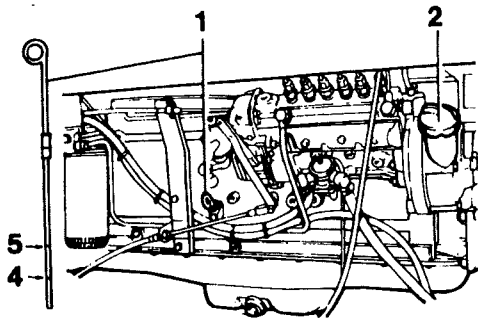

Fig 39a Engine
- 2 Check the oil level using the dipstick (1). The level should be at the upper mark (5 in Fig 39a). If necessary, replenish with more oil.
- 3 Refit the filler cap (2 in Fig 39a).